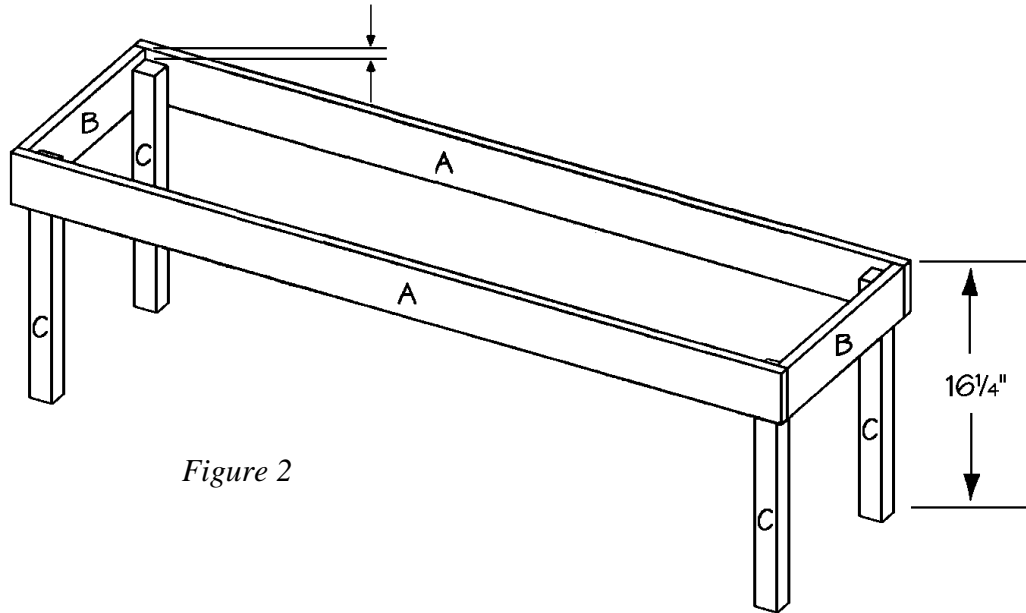

*Figure 1*
1. Cut two long tops (A) from 1 x 4 pine, each measuring 53" long.
2. Cut two short tops (B) from 1 x 4 pine, each measuring 14" long.
3. Place the two short tops (B) between the ends of the long tops (A), as shown in *Figure 1*. Screw through the long tops (A) into the ends of the short tops (B), using two 1-5/8"-long screws on each joint.